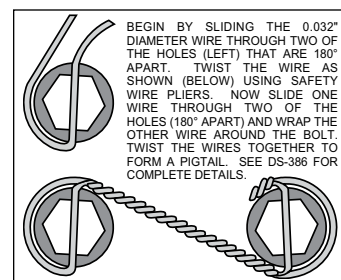

Figure 5. Safety Wire Diagram
- With the larger I.D. side of the rotor (4) facing away from the hat (3), bolt rotor (4) to hat (3) through the backside of the rotor using washers (5) and bolts (6). Apply red *Loctite*® 271 to the bolt threads and torque to 155 **in-lb** using a criss-cross pattern. For an added measure of security, the bolts may be safety wired using standard 0.032 inch diameter stainless steel safety wire as shown in Figure 5. Please refer to Wilwood's data sheet DS-386 (available at www.wilwood.com/Pdf/DataSheets/ds386.pdf) for complete safety wire installation instructions.